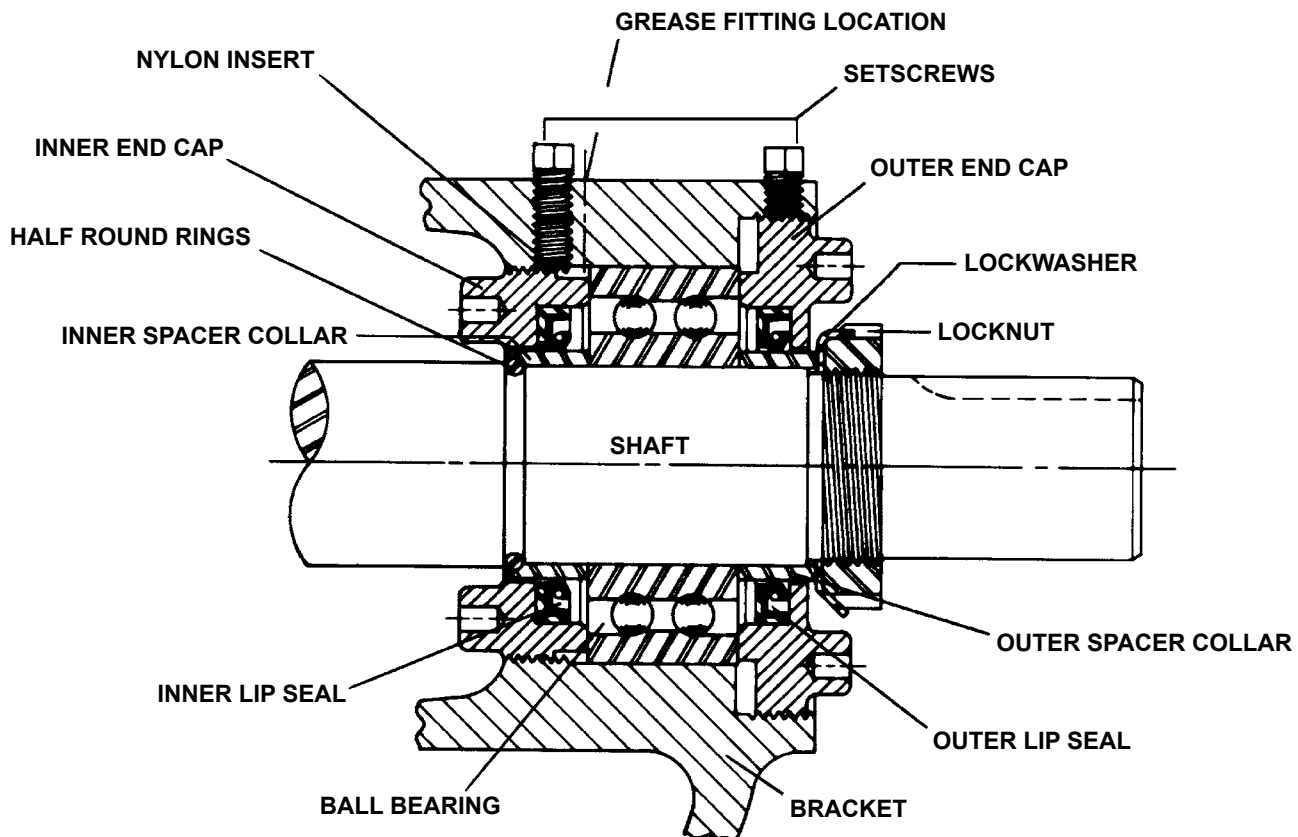

FIGURE 4
5. Tap the shaft forward approximately ½ inch and check for a pair of half circle, round wire rings under the inner bearing spacer collar. **See Figure 4.**
8. Loosen the four setscrews over the inner and outer end caps. Remove both end caps, lip seals and bearing spacer collars. **See Figure 4.**
Place the pair of half round rings (not used on Q, QS and M) in the shaft and slide the inner spacer collar over them. **See Figure 4.**
**NOTE:** The end cap must be turned so far that the lip of the seal drops off the end of the spacer collar on the shaft or the end cap becomes disengaged with the threads. **See Figure 4.**
10. Install the lip seal (lip toward end of shaft) and bearing spacer in the outer end cap and turn the end cap into the bracket until tight against the bearing. **See Figure 4.**
11. Put lockwasher and locknut on shaft. Insert length of hardwood or brass through port opening between rotor teeth to keep shaft from turning. Tighten locknut to 120-150 ft.- lbs. Torque (LS) or 170-190 ft. – lbs. Torque (Q, QS, M). Bend one tang of lockwasher into slot of locknut. If tang does not line up with slot, tighten locknut until it does. Failure to tighten locknut or engage lockwasher tang could result in early bearing failure and cause damage to rest of pump. Remove length of hardwood or brass from port opening.